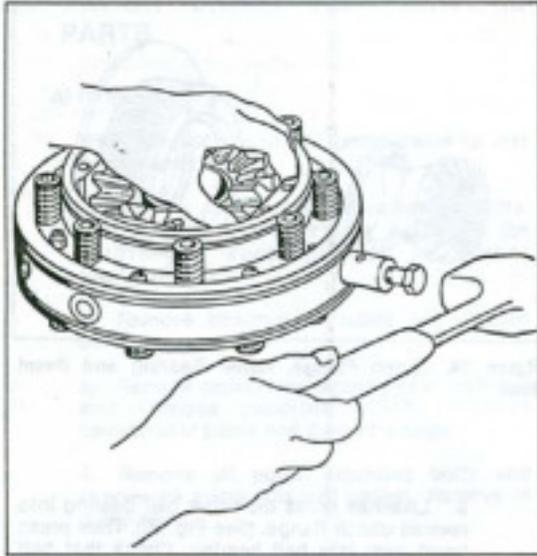

Figure 26. Installation of Bevel Pinion Shaft using Protective Capscrew (1/2-20 NF).
3. Installation of bevel pinion shafts: (see fig.26)